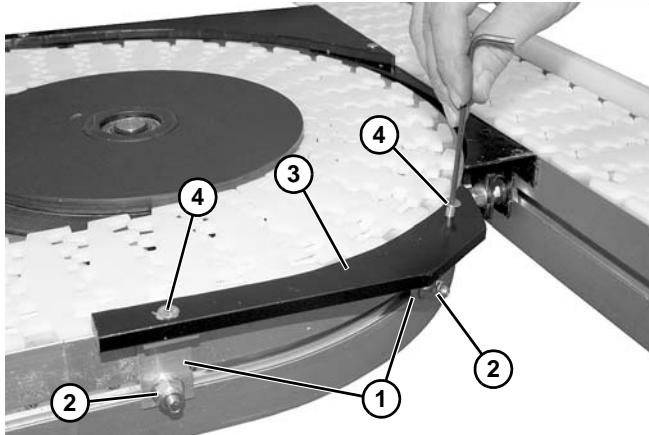

Figure 26
10. Install two angle supports (**Figure 26, item 1**) to conveyor with two M8 x 20 mm studs and hex nuts (**Figure 26, item 2**). Do not tighten hex nuts at this time.
11. Install exit wedge guide (**Figure 26, item 3**) to angle supports with two flat head screws (**Figure 26, item 4**).